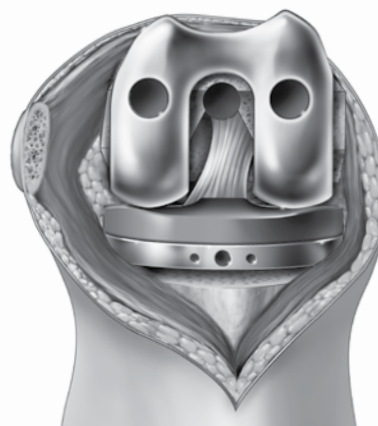

Figure 18
2. Anterior lift-off of the Tibial Insert Trial and/or Tibial Tray Trial (*Figure 18*)